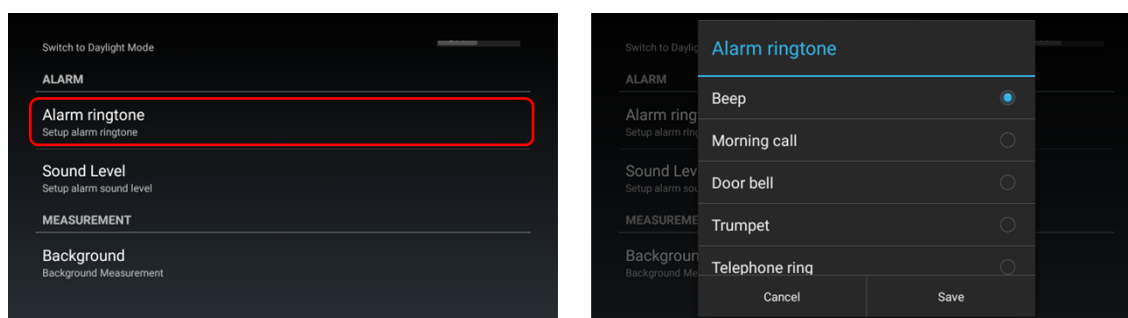

Figure 5.7. Select ringtone
The SAM 950 provides five alarm ringtone options as shown in Figure 5.7. below.
1. Select 'Alarm ringtone' (figure 5.7)